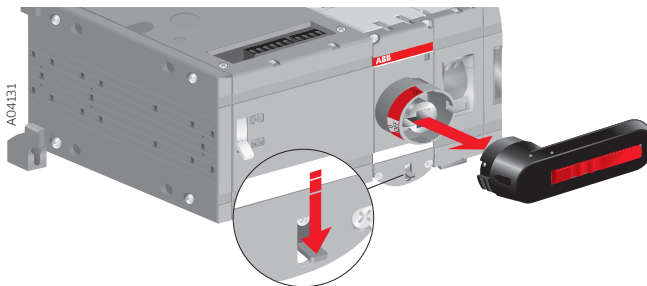

Figure 8.1 Releasing the handle
1. Release the handle from the switch panel by pressing down the locking latch under the switch panel and pulling the handle off, see Figure 8.1.